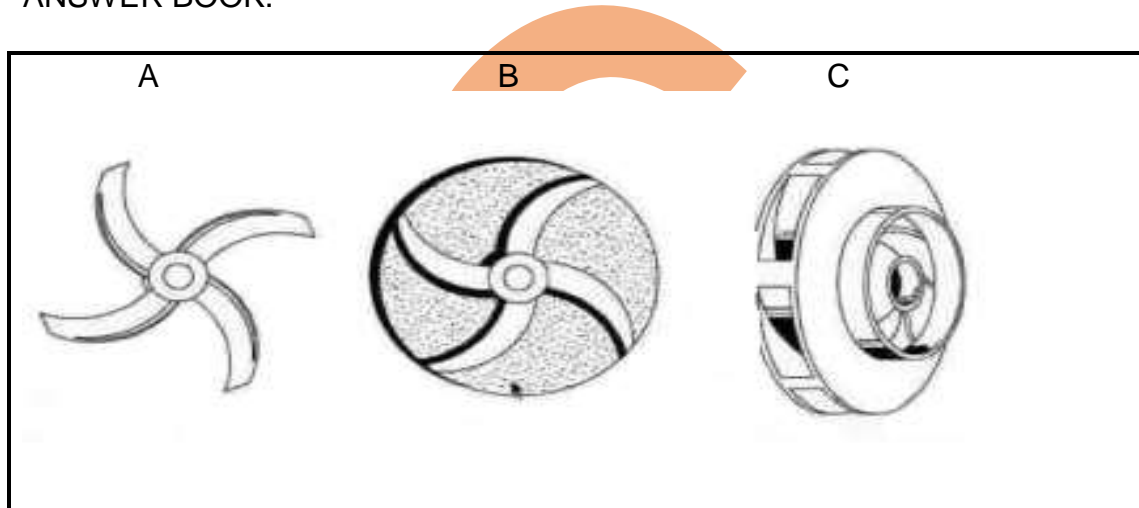

FIGURE 5
- 4.4 FIGURE 5 shows three main types of impellers used on centrifugal pumps. Name each impeller by writing only the answer next to the letter (A–C) in the ANSWER BOOK.